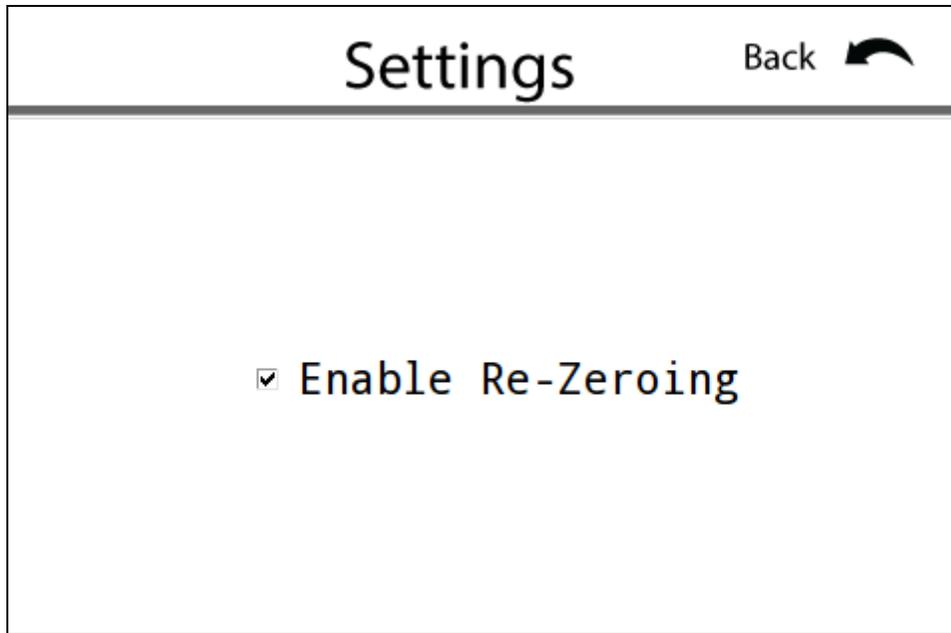

Fig. 3
3. Tap the check box next to "Enable Re-Zeroing" (see **Fig. 3** below)